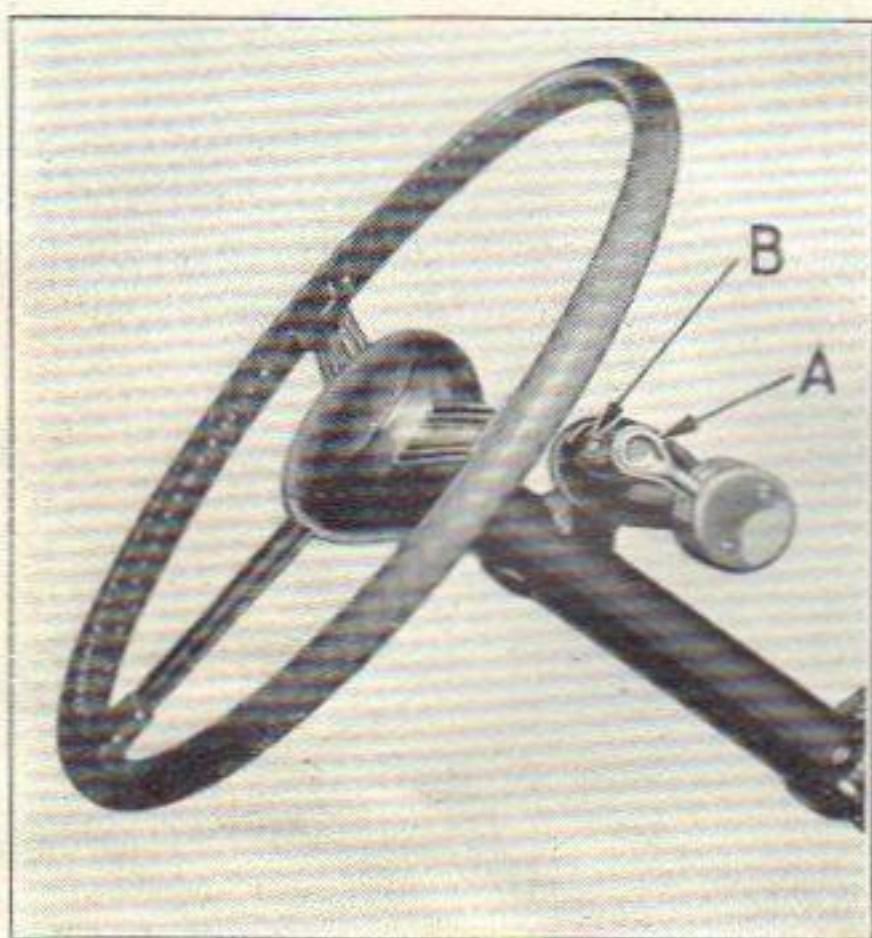

Figure 8
steering wheel. The gear is selected merely by moving the small lever (A), Figure 8, with a finger of the right hand. Then, by depressing the clutch pedal fully to the floor board, the actual shifting of gears is accomplished.